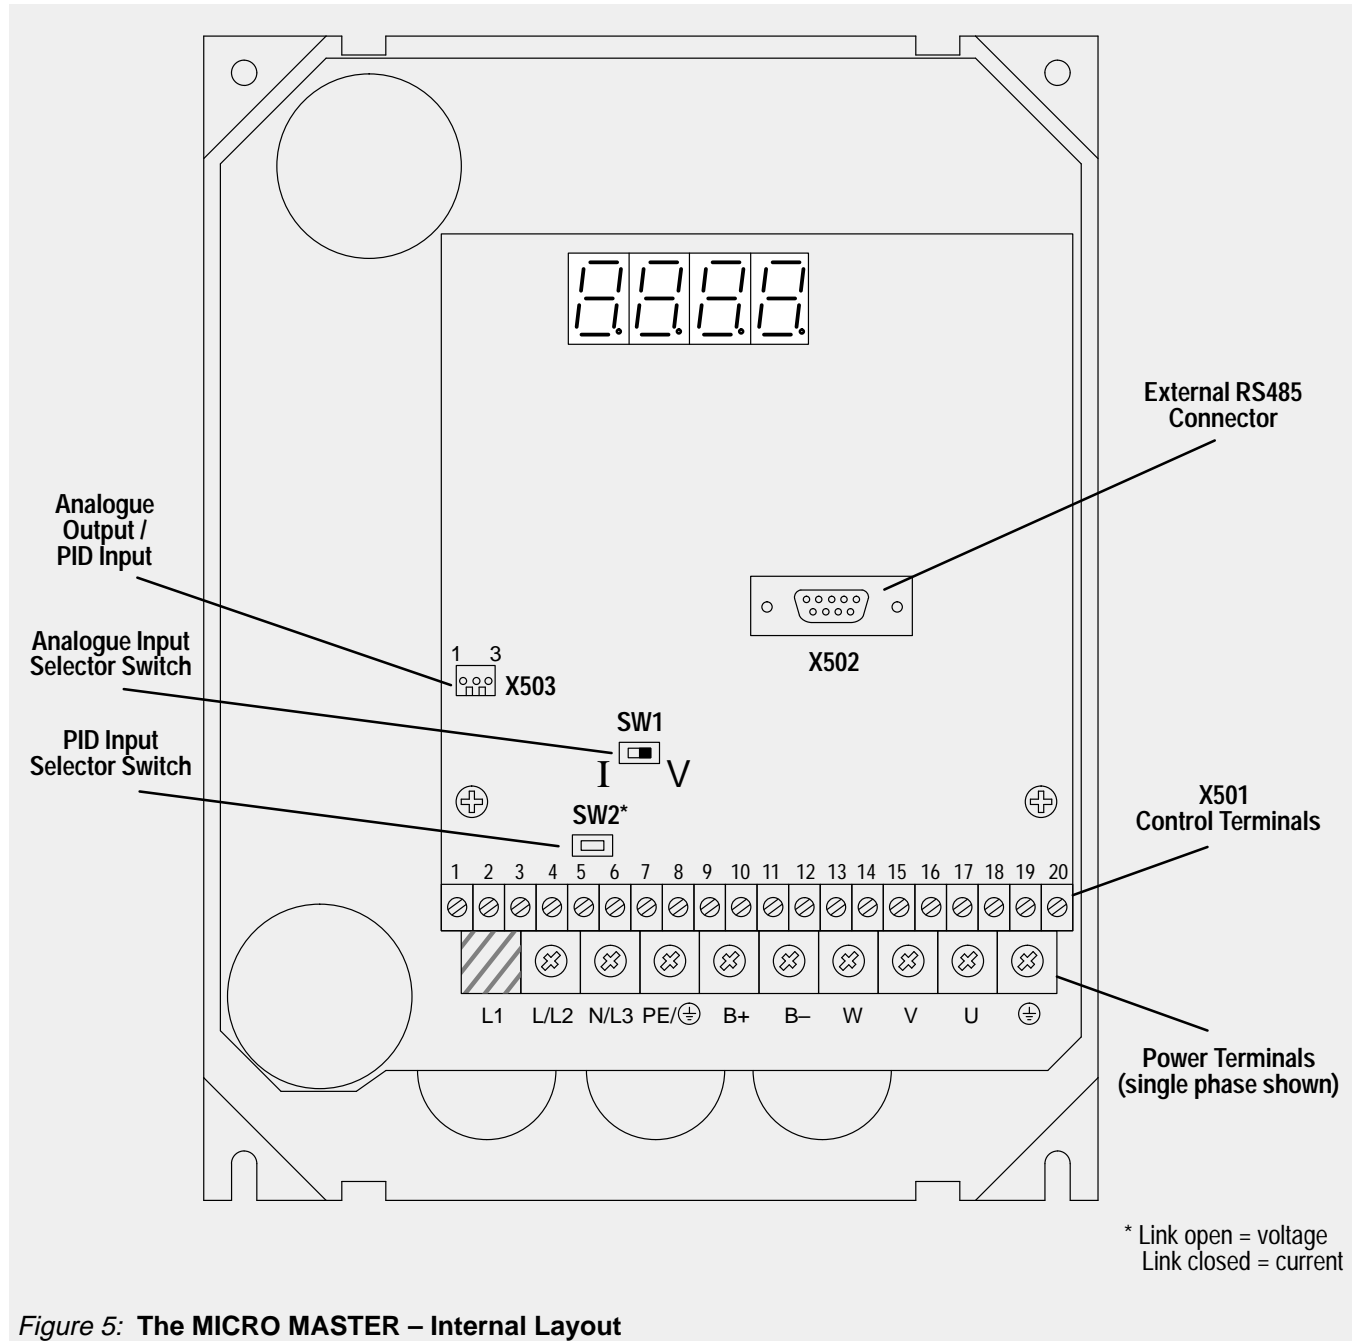

Figure 5: The MICRO MASTER – Internal Layout
The cover must be removed to connect the electrical leads. The cover on the MICRO MASTER is attached to the heatsink by a single M4 screw which is located below the STOP button (see Section 3, Figure 11). Remove the screw and then lift off the cover. The electrical terminals are now exposed (see Figure 5).
Switch SW1 selects between voltage (V) and current (I) analogue inputs. Switch SW2 selects either a voltage (link open) or current (link closed) PID feedback signal. These switches can only be accessed while the cover is removed (see Figure 5 for location).